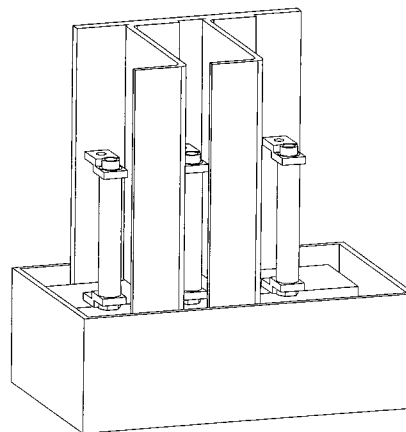

Figure 15. Cartridge fuse assembly.
3. Locate cartridge fuse assembly (see Figure 15) on back tank wall.